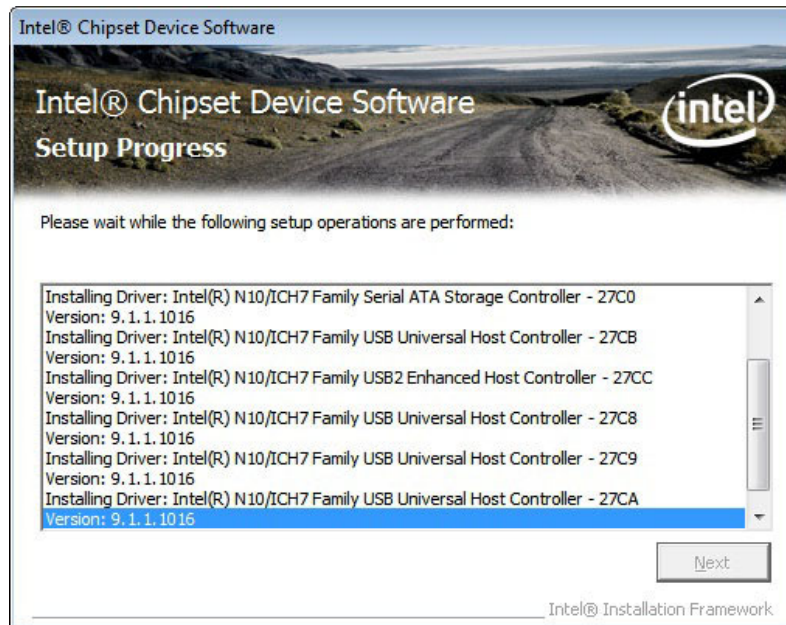

Figure 6-7: Chipset Driver Setup Operations
Step 14: Setup Operations are performed as shown in **Figure 6-7**.